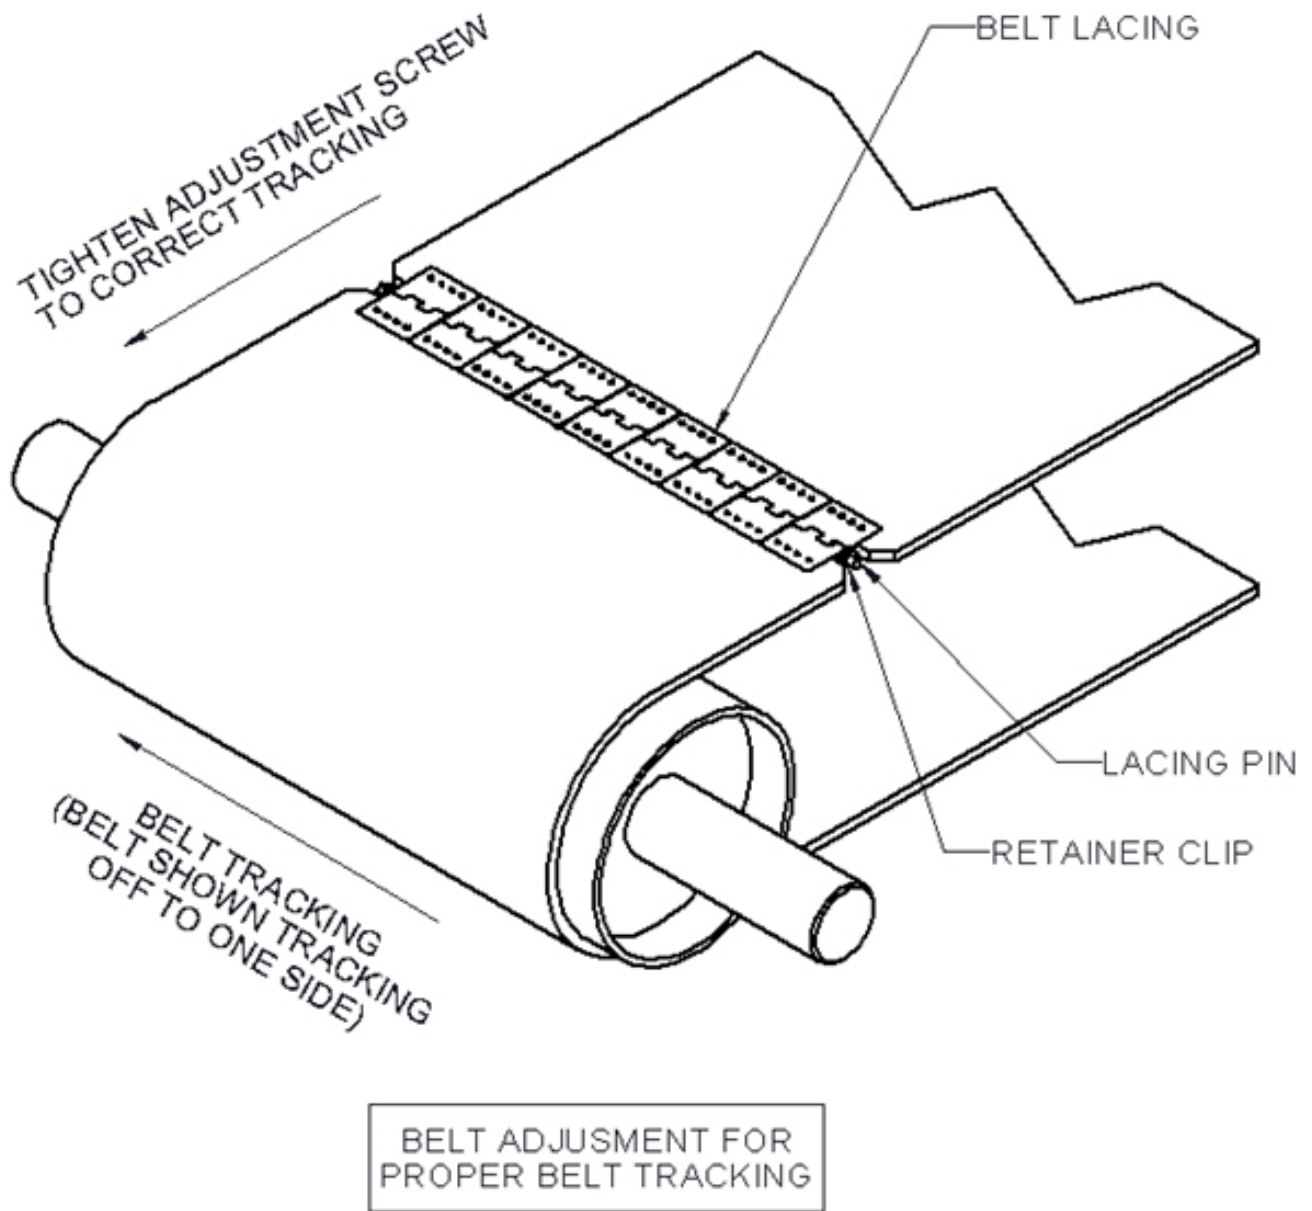

FIGURE 1
6. If belt is not centered, adjust the bearing on the side the belt is moving toward. The bearing should be moved in the direction which would tighten the belt. See Figure 1.
7. Start the conveyor and run empty for one (1) minute.
2. Loosen the conveyor belt and remove lacing retainer clip and pin. See Figure 1.